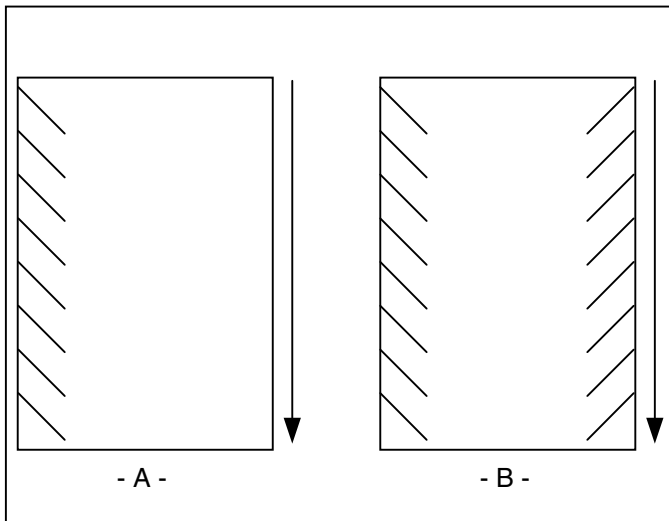

Fig. 47
5. Angled waves in the output (Figure 47 A & B).